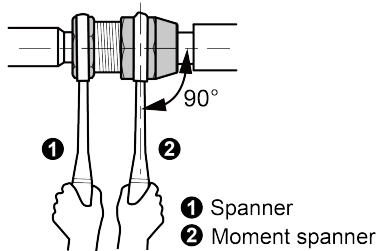

Figure 7-2 Fastening the connection pipes
- (2) Bind up the connecting pipes, power cable, water temperature sensing package, and communication lines (if necessary) of the wired controller with thermal insulation bands, and then lead them through the hole.
- (3) Remove the refrigerant pipe joint from the water tank and the sealing nuts from the small and large valves of the outdoor unit.
- (4) Remove the sealing caps of the connecting pipe. Align the center of the bell mouth with the pipe joint and valve cone, and screw up the conical nut with your hand and then with a wrench, as shown in Figure 7-2.